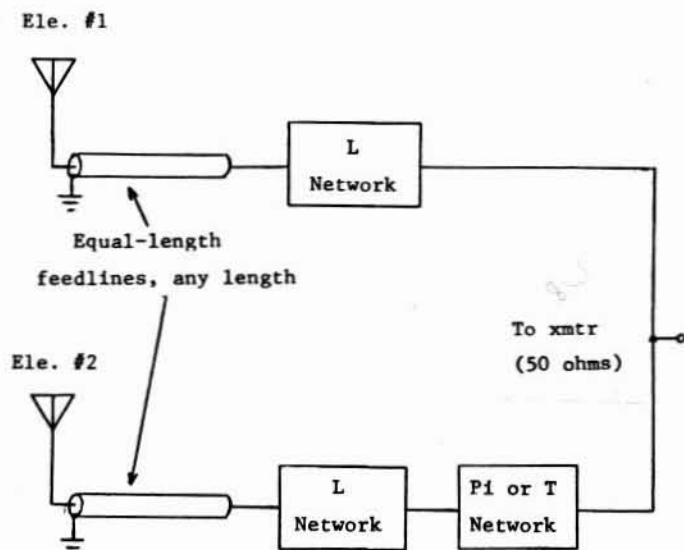

Fig. 1 Two-Element Phased Array Design
The topology of the resulting system (using a 2-element array as an example) is shown in Figure 1. Note that the elements are all fed through equal-length coaxial lines. No phasing lines are used since the phasing is achieved in the L-C networks. These networks are comprised of simple L and pi (or T) type networks which accomplish the following functions: (1) the impedances at the inputs of each coax feeder are transformed by the L networks to a value which insures that the antenna currents divide in the correct ratio for each element, (2) the pi (or T) networks provide the phase correction to achieve the proper relative current phasing in the elements, and (3) these same networks also provide a 50-ohm match to the transmitter end of the system.